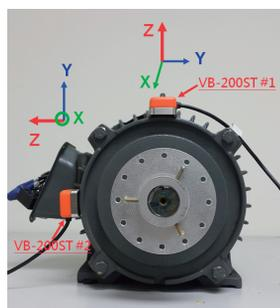

Figure 2
- 1 Follow the ISO-10816 procedures, use the two vibration gauges to measure the vertical and horizontal vibrations RMS data at the specified locations. (Fig. 2)
- Install the 1stVB-200 ST at the location shown as Fig. 2
- Install the 2nd VB-200ST at the location shown as Fig. 2